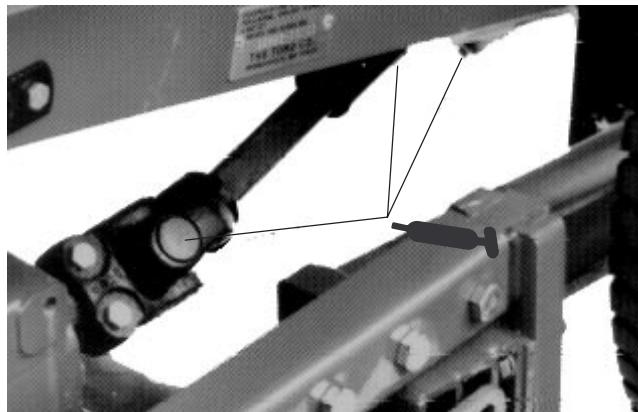

Figure 27
- PTO universal shaft (Fig. 27)